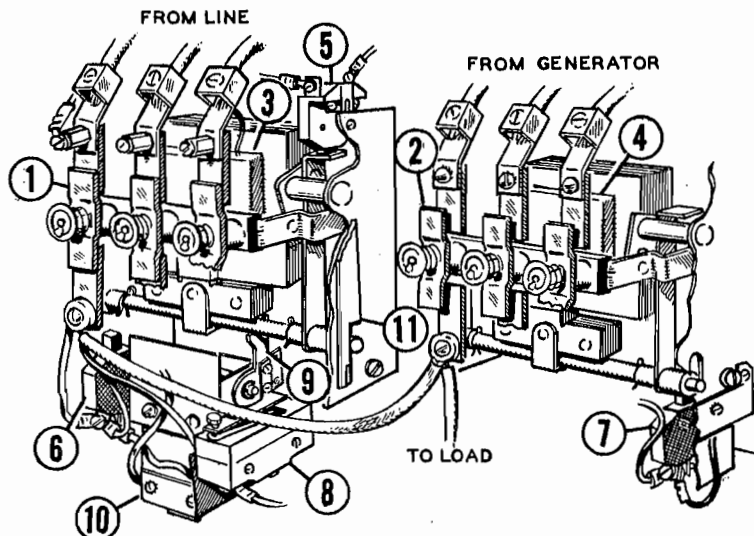

FIGURE 2. TRANSFER SWITCH IN NORMAL POSITION
Transfer switch in normal position connects load and line. Note in Figure 2 that the mechanical latch (9) holds the line contacts (1) closed and the coil disconnect switch (8) open, so no power is on the main coil.